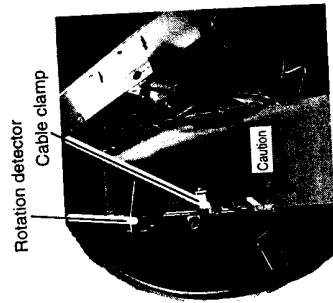

Figure 6 Antenna unit, inside view
9. Refasten the shield plate. Be sure not to pinch cable from the rotation detector with the shield plate. See "Caution" in Figure 6 for details.